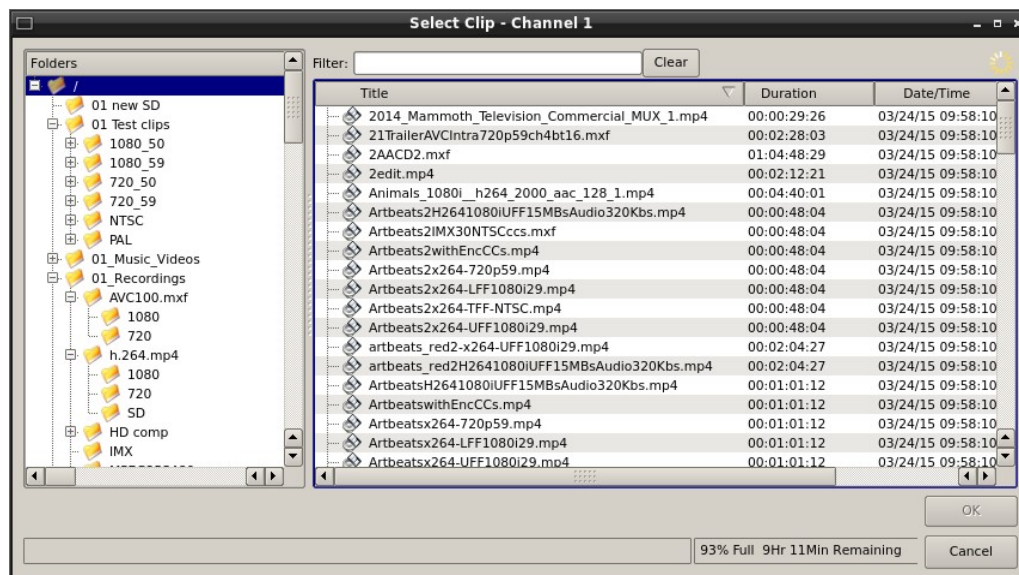

Figure 13 – Channel-1 Select Clip Window in “Open” Mode
1. Select **FILE > OPEN** from the Transport Window of Channel 1 or 2. The Select Clip window **Figure 13 – Channel-1 Select Clip Window in “Open” Mode** appears.
1. Select **FILE > CLIP LIST** from the Main Window. The Clip List window in **Figure 13 – Channel-1 Select Clip Window in “Open” Mode** appears.